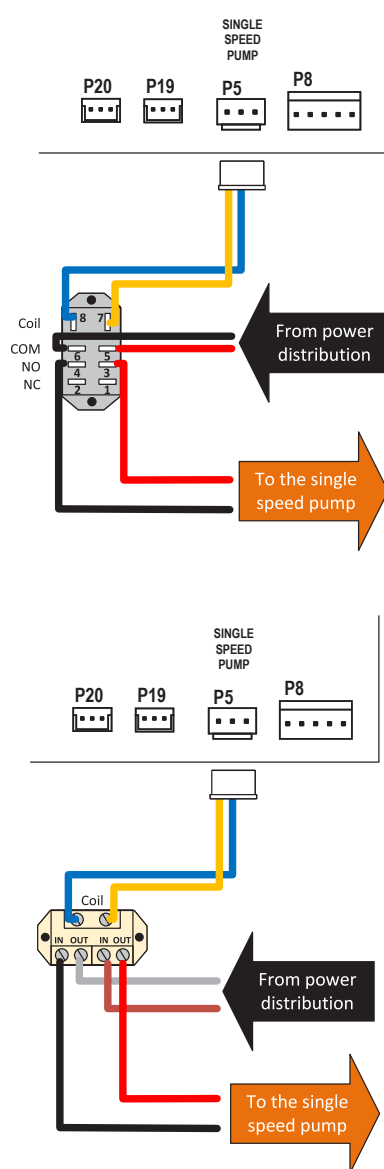

Figure 140. 24VAC Relay Wiring
4. Use the harness adapter supplied in the accessory bag labeled as “single-speed pump” to connect the field-supplied relay to the terminal of the control board marked as “PUMP” [P5]. Connect the other end of the harness to the coil terminals of the relay, as shown in Figure 140.
5. Connect the wires coming from the pump and the power distribution box to the relay contact terminals, as shown in Figure 140.